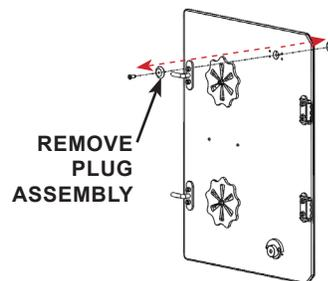

FIGURE 3.19 - Door Plug Removal
- B:** Door Plug - Remove the door plug assembly with a Phillips head screwdriver, turn the screw counterclockwise to loosen, remove. Set aside for the moment. See FIGURE 3.19